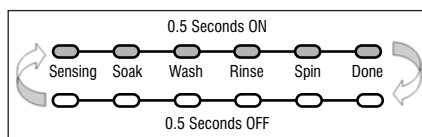

Figure 2 - Status LEDs flashing ON and OFF
- Turn cycle selector knob until the status LEDs flash ON and OFF and "01" is displayed on 7-segment. (See figure 2, page 2).